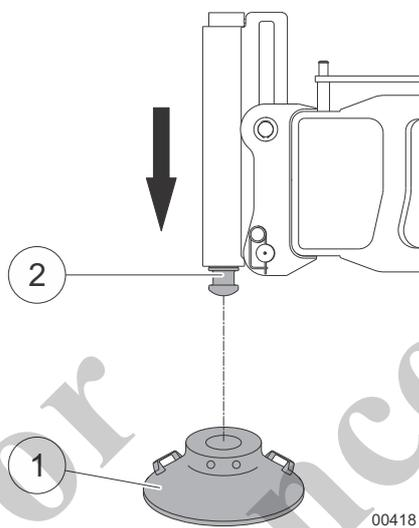

Fig. 123 Placing the outrigger pad under the outrigger cylinder
- 8 Remove the outrigger pad (1) in Fig. 123 from the track wheel carrier and place it under the outrigger cylinder (2).